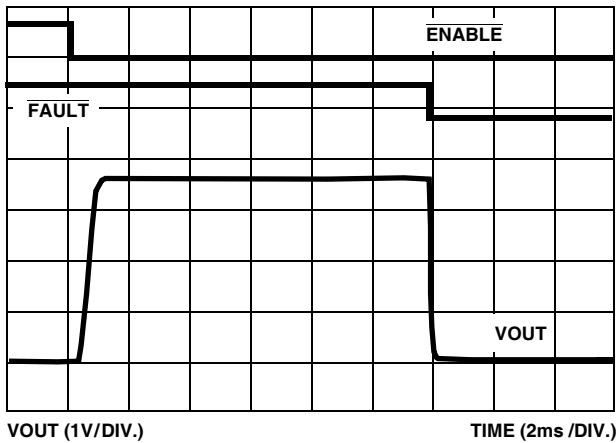

FIGURE 10. ISL6436L TURN-ON INTO 1.5A OCS
During initial turn-on the ISL6436 prevents nuisance faults being reported to the system controller by blanking the fault signal for 12ms. This blanking eliminates the need for external RC filters necessary for other vendor products that assert a fault signal upon initial turn-on into a temporary high current condition. See Figures 10 through 12 for waveform examples.
An overcurrent (OC) condition can be invoked on both the ISL6436 and the PPTC by driving TP11 to +6V, causing SW1 to close and a nominal 1.5A load is imposed. This represents a current over load to the ISL6436 and is thus quickly current regulated to the 1A limit. If the OC duration extends beyond the nominal 12ms of the internal ISL6436L timer then the output is latched off and the fault output is asserted by being pulled low turning on the appropriate FAULT LED, see Figure 10. (Please note: the labeling for FAULT-1 and FAULT-2 is reversed). The eval board is designed to only invoke an OC condition on channel 2 (TP4) so that a channel to channel isolation